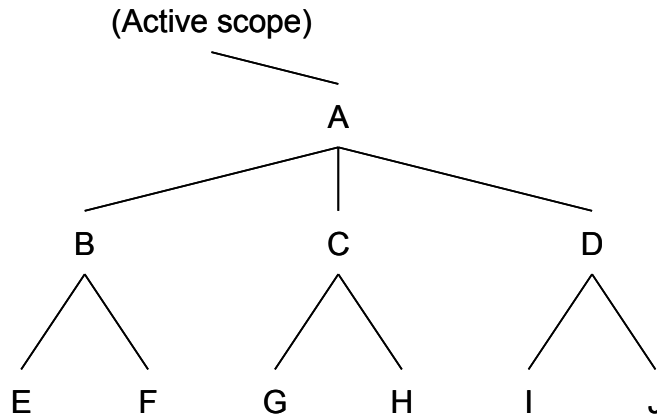
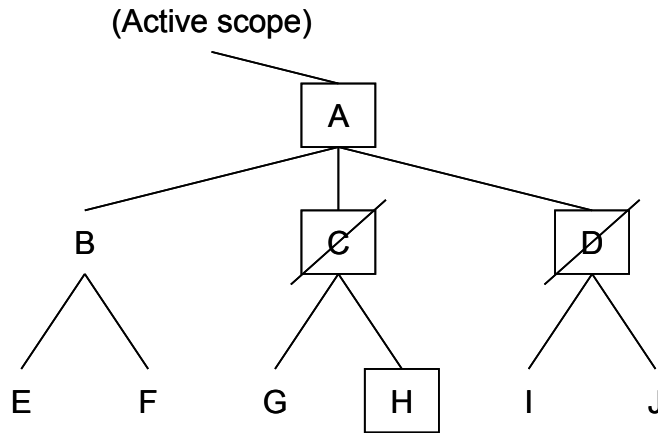
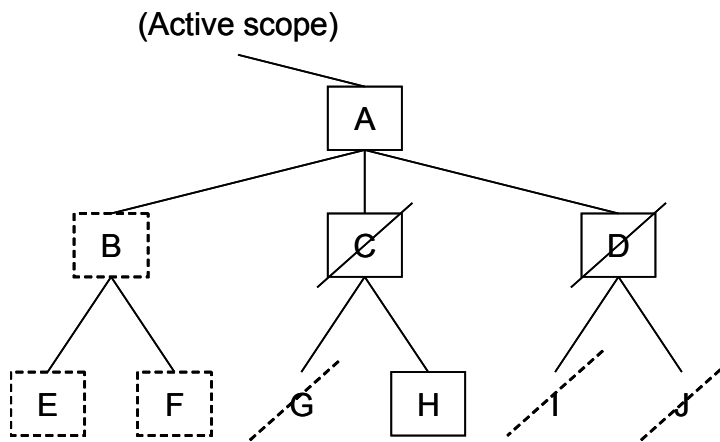

Figure 4—Element processing example design fragment
Figure 5—Element processing specification
Figure 6—Element processing result
The detailed semantics of transitive TRUE are described using Figure 4, Figure 5, and Figure 6. The figures are exemplary, the text provides a semantic for the validation of the result.
- a) Given a design as shown in Figure 4 with a design element A in the active scope, where A has child elements B, C, and D; B has child elements E and F, C has child elements G and H, and D has child elements I and J.
is applied to the design fragment shown in Figure 4, then Figure 5 shows the four specified elements by indicating them as boxed; those specified with exclude are shown with strike-through text.
- c) Figure 6 shows the results of the *effective_element_list*. The list includes `{A A/B A/B/E A/B/F A/C/H}`